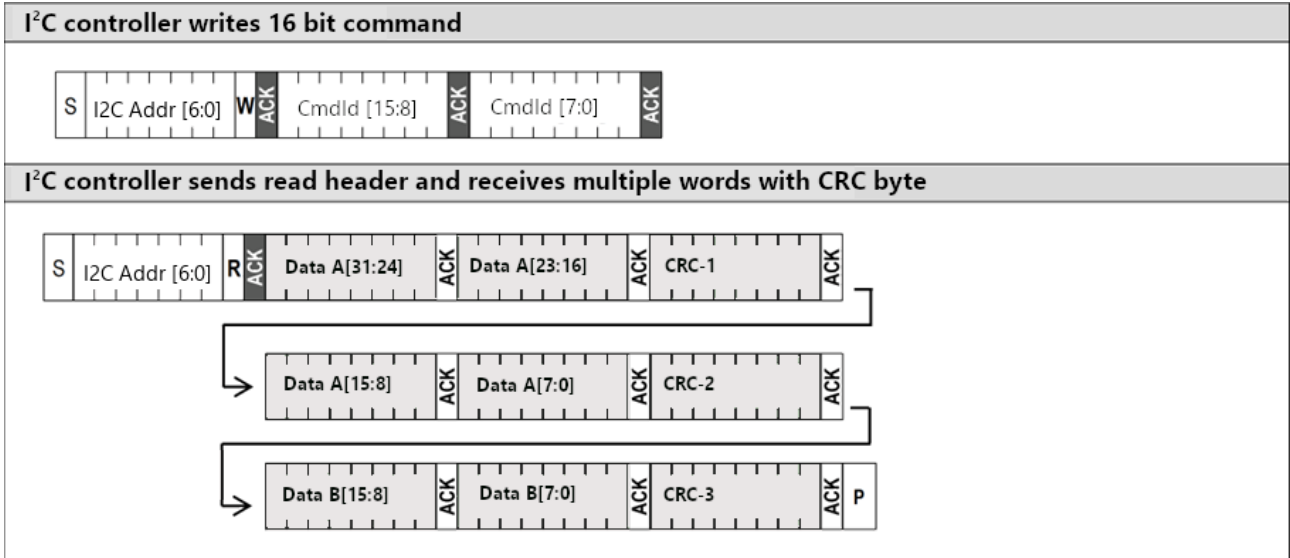

Figure 4. Example of I2C transfer.
The write, read and combined data transfer formats are visualized in **Figure 4**. Data and commands are transferred in multiples of 16-bit words, with the most significant byte (MSB) transmitted first. All transfers must begin with a start condition (S) and terminate with a stop condition (P). A sensor is addressed by sending its 7-bit I2C address, followed by an eighth bit denoting the communication direction (W/R): “zero” indicates transmission to the target (i.e., “WRITE”) and “one” indicates a request for data (i.e., “READ”). In general, command words are 2 bytes long. Note that the 2nd byte is the CRC of the 1st byte, thereby preventing the accidental executing of an incorrect command. An exception is the *perform_soft_reset* command, which is only 1 byte long and is sent to the I2C general call address (0x00). In read direction, the controller may abort transmission after any data byte by sending a not acknowledge (NACK) and a stop condition.